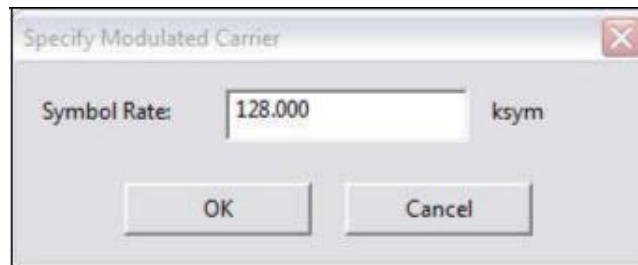

Figure 48. iSite: Specify Modulated Carrier Dialog Box
2. In the **Specify Modulated Carrier** dialog box (Figure 48), enter the **Symbol Rate** as directed.